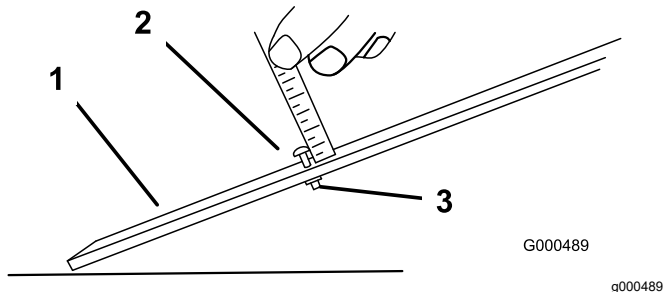

Figure 9
1. Loosen the nut on the gauge bar and set the adjusting bolt to the desired height of cut (Figure 9).